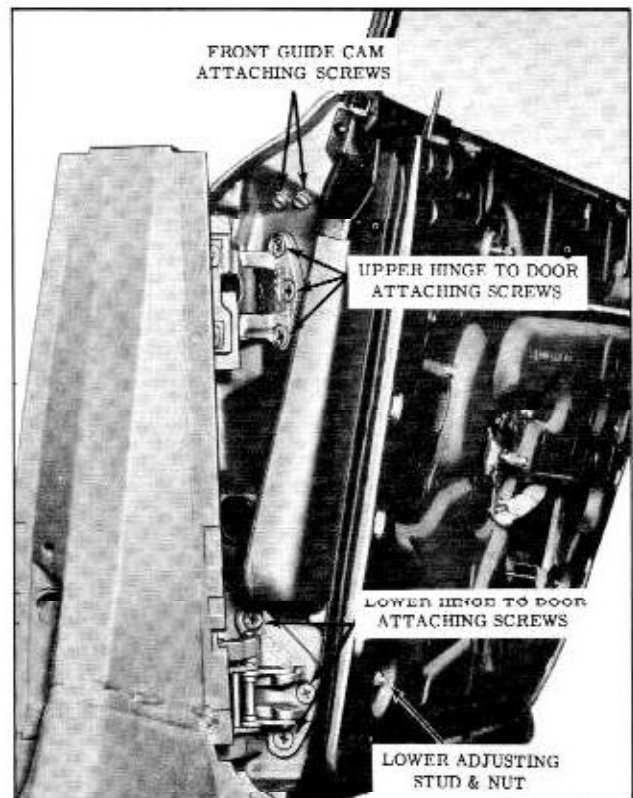

Fig. 17-52 Rear Door Hinge Attachment
3. At door hinge pillar facing, remove 2 screws securing guide cam support and remove support through access hole. (Fig. 17-52)
- c. Loosen 2 front guide cam support attaching screws on door hinge pillar facing. (Fig. 17-52)